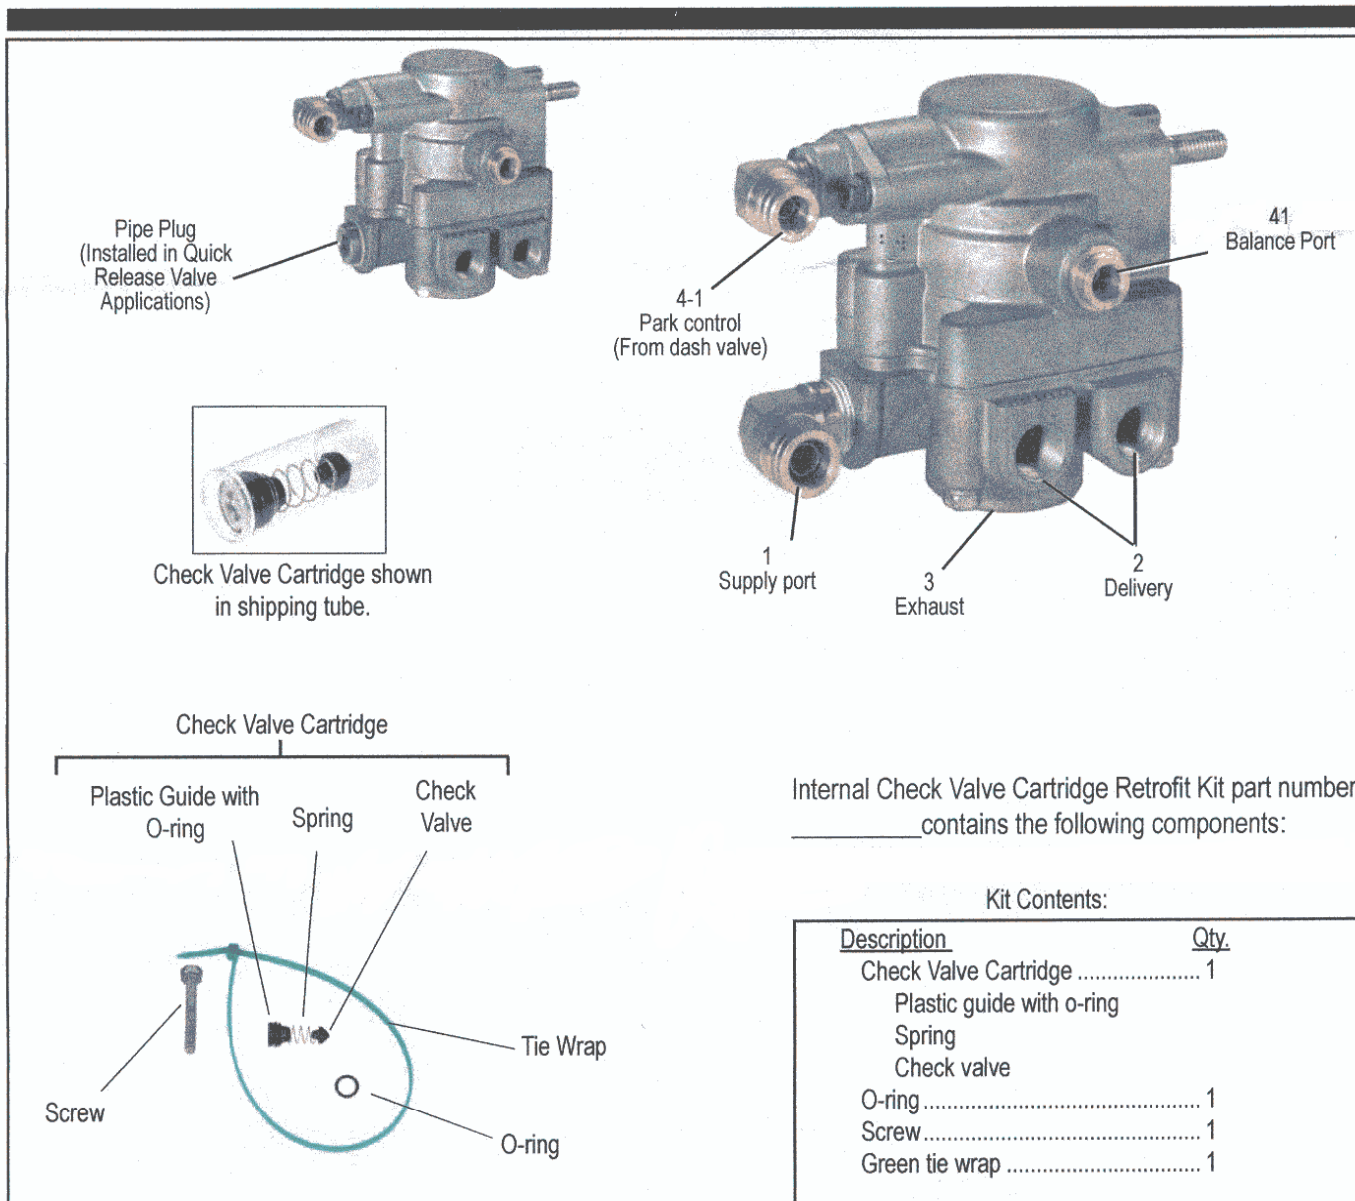

Figure 1 - BENDIX® SR-7™ SPRING BRAKE MODULATING VALVE PORT DESIGNATIONS AND KIT CONTENTS
2. Identify the supply (SUP 1) port. Note: this port will contain a check valve or a pipe plug. Refer to Figure 1.